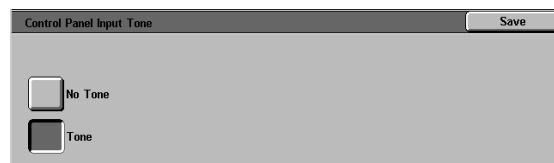

Figure 12: Control Panel Input Tone screen
- For the Control Panel Input Tone, touch **No Tone** or **Tone**. See Figure 12.